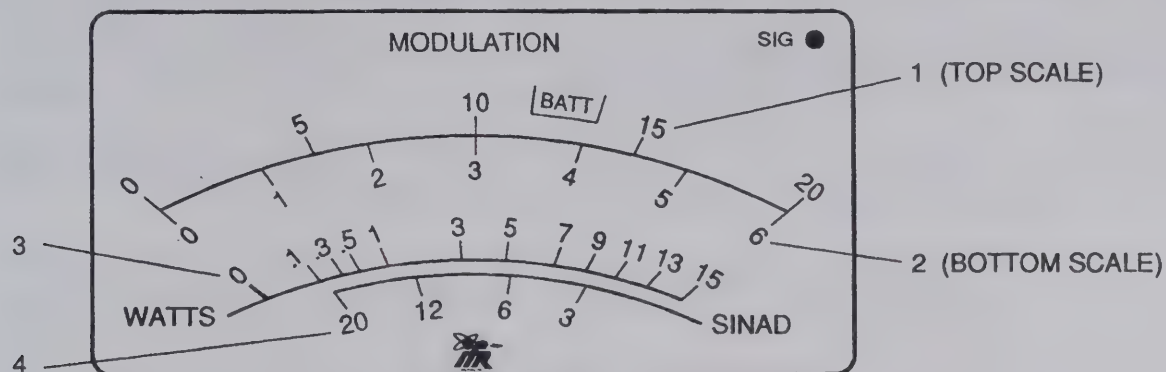

Figure 3-2 MODULATION Meter Scales
| 1.   | MODULATION Meter                 | Provides a visual display of modulation levels, RF power levels (peak and average), relative signal strength, battery test voltage, distortion and SINAD when selected by MODULATION Meter Control (4). (See Figure 3-2.) |
- Selects input source for MODULATION Meter (1) as shown in Table 3-2 (Reference Figure 3-2).